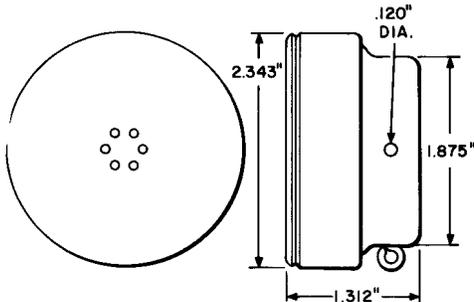

Fig. 12—716-Type Test Receiver Tool
2.12 716A, B, C, D, E, F, and J: The 716-type test receiver tool (Fig. 12) is used in testing when dc is not present. The 716A, B, C, and J tools are designed for use with an 11A headband. The 716D, E, and F tools are equipped with an 11A headband. Major components are listed below: